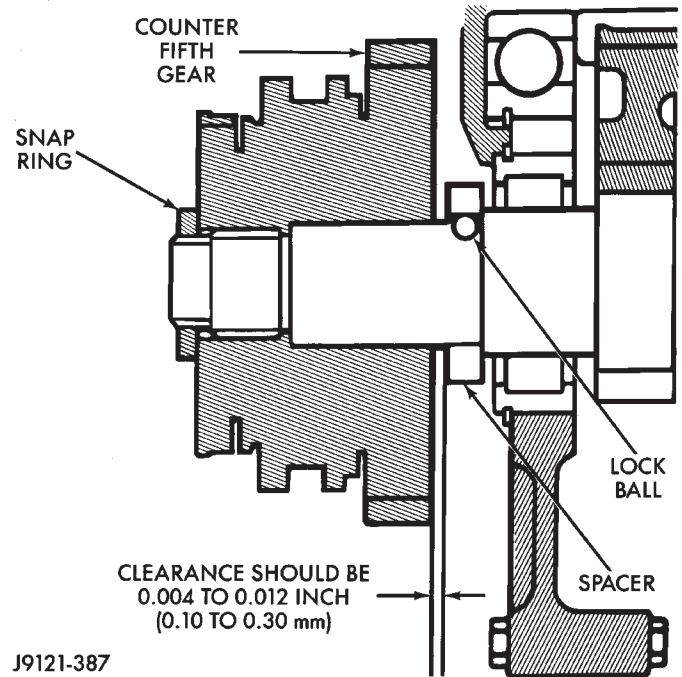

Fig. 19 Measuring Counter Fifth Gear Thrust Clearance
(1) On AX 5, measure fifth counter gear thrust clearance with feeler gauge (Fig. 19). Clearance should be 0.10-0.30 mm (0.004-0.012 in.).